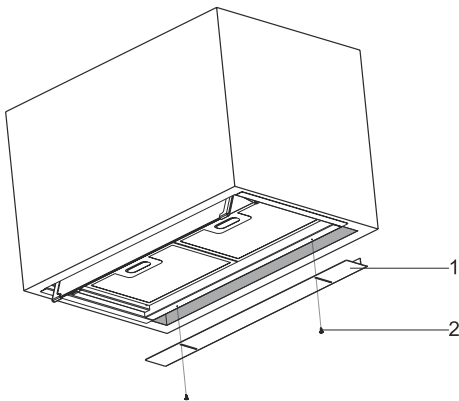

Fig. 13
4. → If there is gap between the back surface of the hood and the wall, attach the supplied spacer plate to the lower surface of the hood to fill up the gap.(Fig. 13).